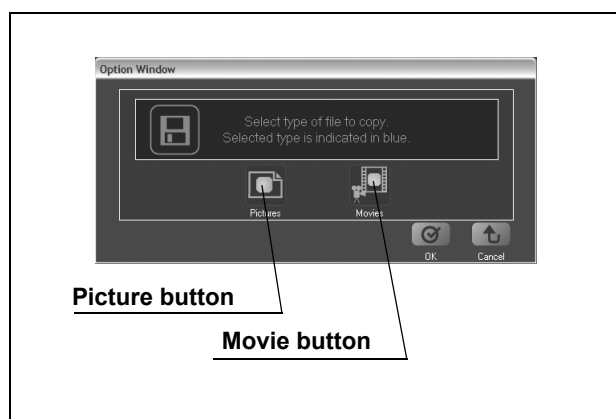

Figure 6.98
5. Select the type of files to be written together with the examination data. Click the [Picture] button to write still images, and the [Movie] button to write video files (see Figure 6.98).